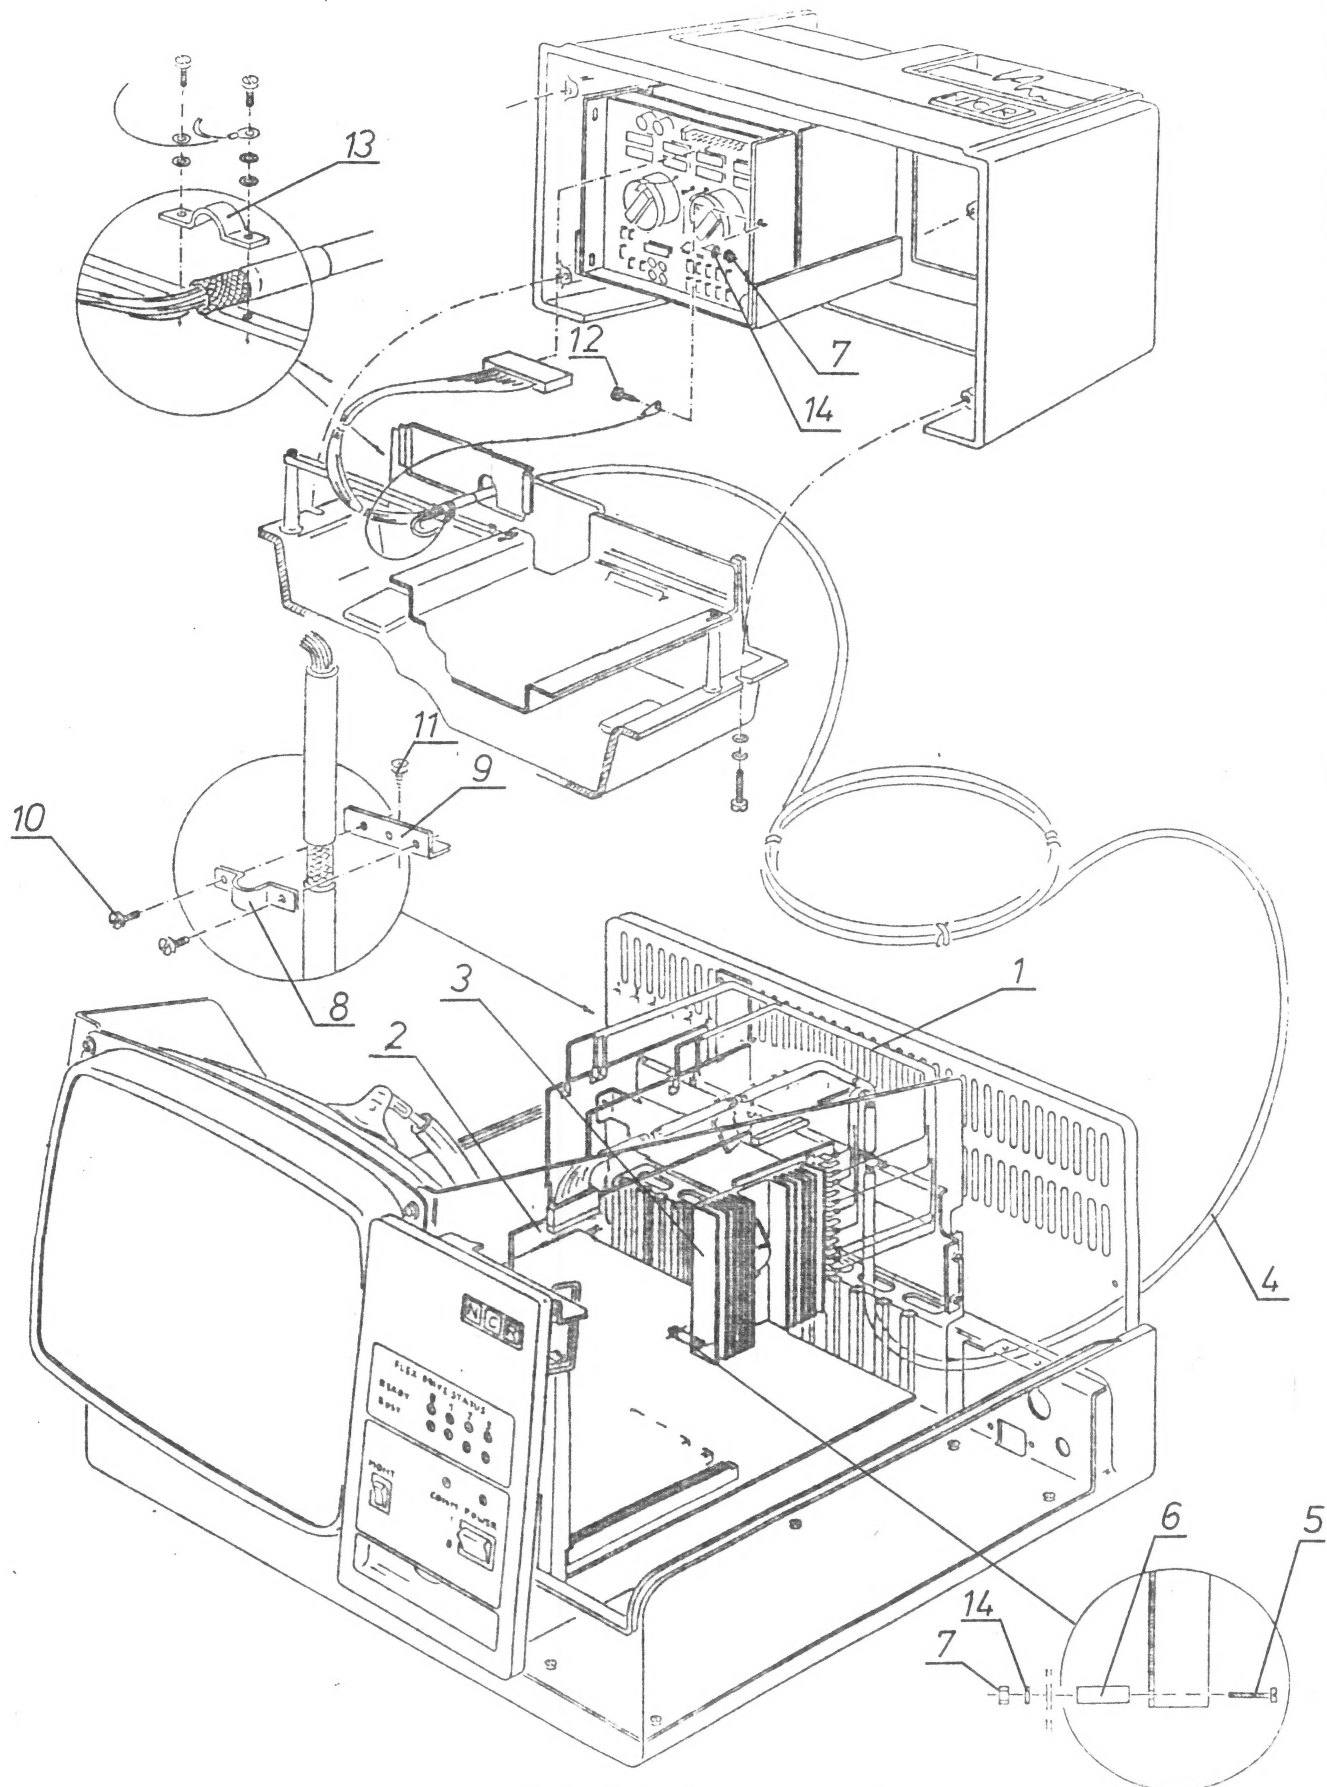

FIGURE 1
6. Install the Cable Clamp (Item 8) and the Bracket (Item 9) on the exposed shielding of the Interconnection table as shown in Figure 1.
NOTE: If a second Digital Cassette Drive has to be installed at the same time, refer to 3274-K076 Installation Instruction Figure 1.
13. Fasten the Interconnection Cable at the exposed shielding together with the ground strap (short piece) by using the Cable Clamp (Item 13) and the saved Screws and Washers on the strain relief bar as shown in Figure 1.